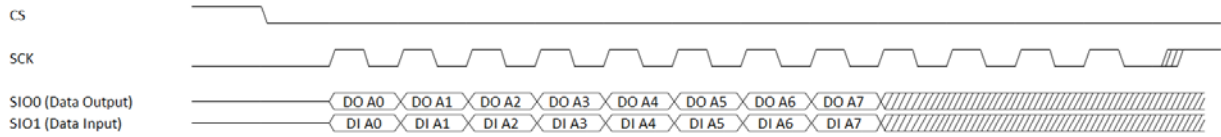

Figure 6.3-1. SPI master single mode
- SPI master single mode. Typical SPI transmission mode is single SPI, a 4-pin protocol. Set the register **SPIM_TYPE** to 0 to enter single mode. In this mode, the register settings for **SPIM_RW_MODE**, **SPIM_DUMMY_CNT** and **SPIM_COMMAND_CNT** are not supported. The single mode data transmission diagram is shown in Figure 6.3-1.